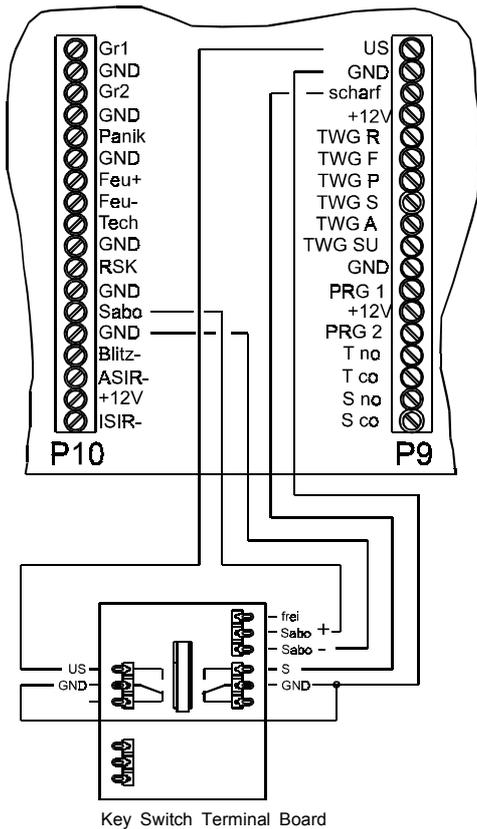
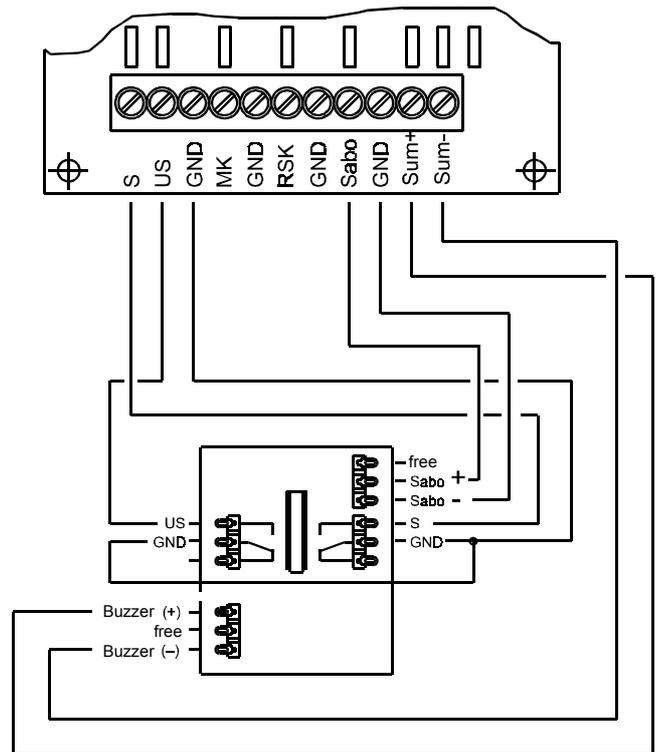

Fig. 43: Key-Operated Switch Connection to the Radio Alarm Center
Fig. 44: Key-Operated Switch Connection to the Radio Door Module
8. Pull off the multipole connectors. Establish the electrical connection of the key-operated switch to the radio alarm center as shown in Fig. 43 on page 51. Connect to the radio door module as shown in Fig. 44 on page 51. The line ends must be soldered to the multipole connectors.